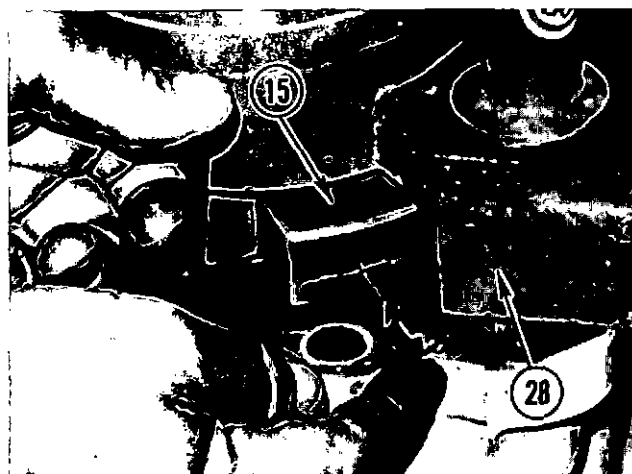

Fig. 1-19. Install The Cutting Tool.
11. Install the cutting tool in to the guide plate and tighten the setscrew to hold the tool, Fig. 1-19. Make sure the cutting tool is all the way in the guide plate.